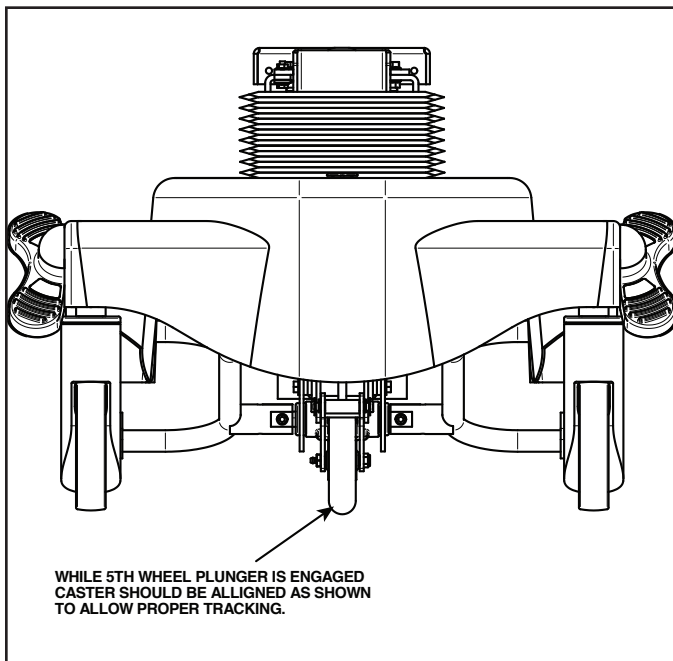

Figure 4-19. Fifth Wheel Alignment
- (3) Move Item #1 toward the head end or the foot end of the stretcher. This will cause Item #2 to rotate CW or CCW. Move until Caster is aligned as shown in Figure 4-19.
- (4) Verify Lock Pin Item # 3 has a minimum of 1/16 of an inch of engagement (i.e. that the bottom face of Lock Pin #3 passes below the round plate of Item #2).
- (5) If the latch does not have enough engagement, lower latch bracket #6 by loosening screws Item #5 until Lock Pin Item #3 has proper engagement.